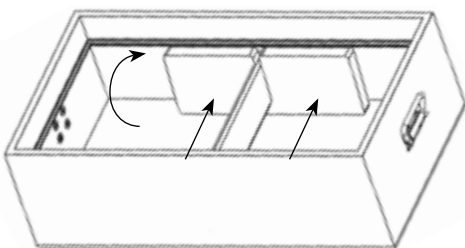

Figure 25
4. Once the cut in the foam spacer is centered under the wood rib, rotate the foam spacer up 90 degrees and push against the wood side. See Figure 25.